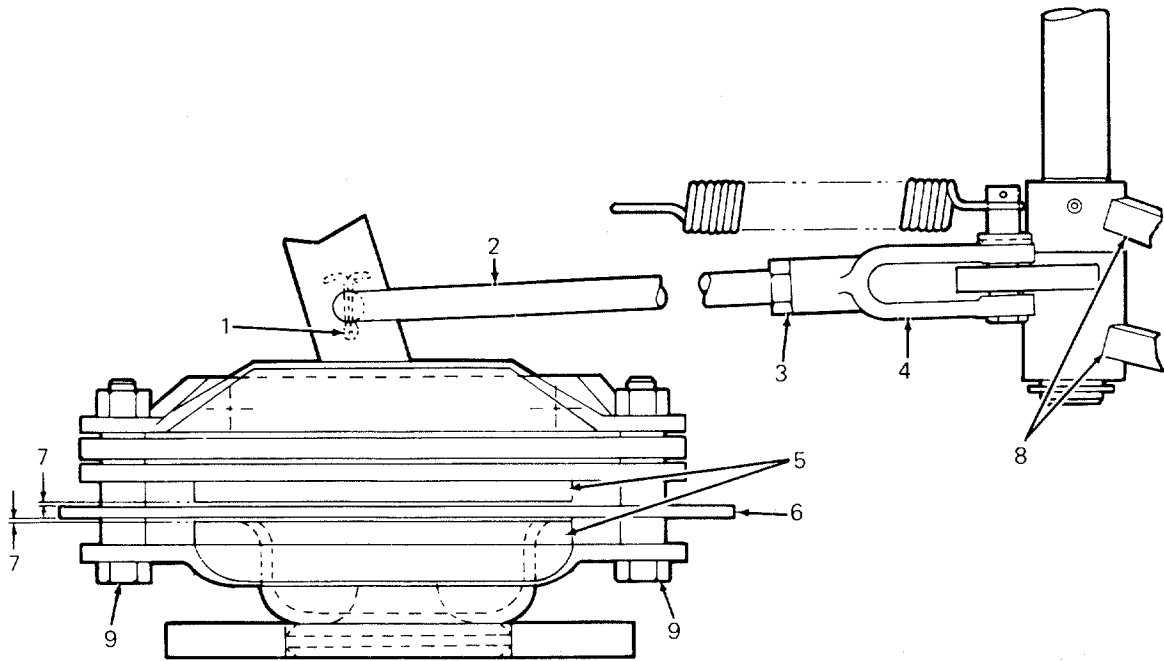

Figure 31. Right Side Shown
2. With the 1 inch thick wood block installed, the brake disc pads should be applying a light amount of friction against the brake disc rotor. If they are not, the brakes need adjustment (see Figure 31).
(See Figure 31)